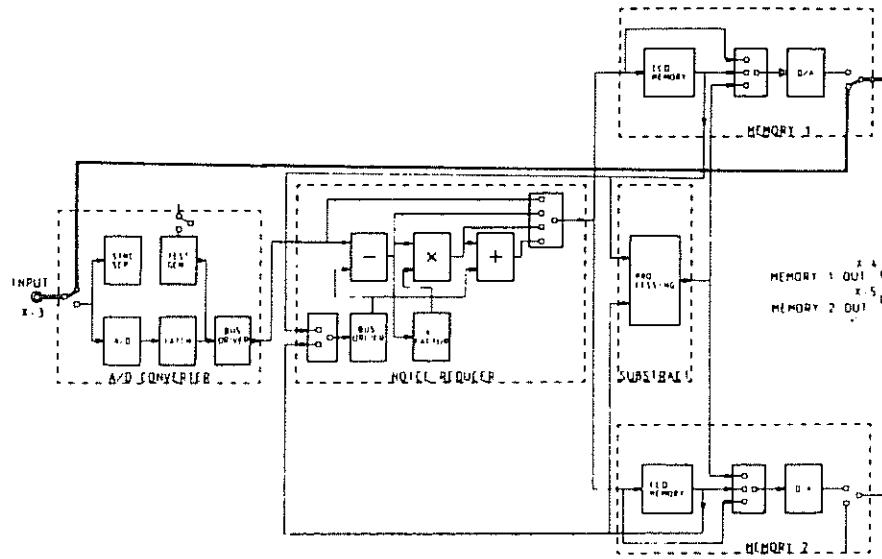

Figure 4.1 : Analog bypass.
(1) Controller/Local Control-board
(2) Analog bypass (fig. 4.1.).